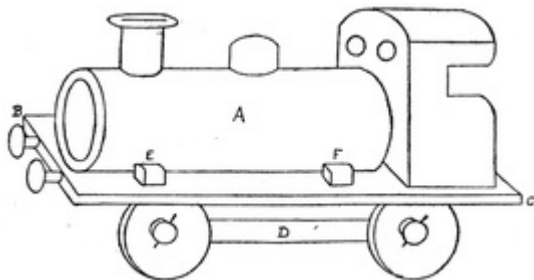
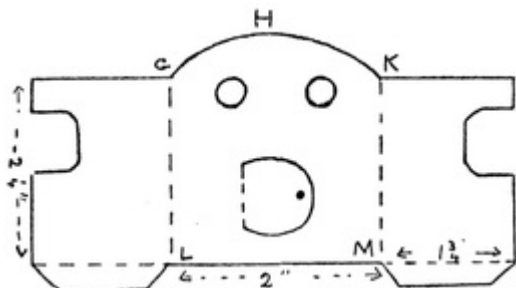

FIG. 230
FIG. 231
A Train. (1) *The Engine* (Fig. 230). The body of the engine, A, is a long mantle-box or a piece of old curtain pole, about $4\frac{1}{2}$ inches long. The wooden bottom, B C, is $6\frac{1}{2}$ inches by $2\frac{1}{4}$ inches. A is glued to B C and kept in position by wooden blocks, E and F. The funnel and the dome are made from corks or pieces of round wood; their ends must be slightly concave, so that they may fit securely to A. A ring of cardboard is gummed to the top of the funnel, which may have a hole in it to take a piece of cotton-wool for
The cab is made of cardboard, as shown in Fig. 231, and is coloured to match the engine. G K L M is gummed to the back of A (Fig. 230), and its sides are fastened to the footplate by the flanges.
B C, as described in Chapter XIII. Strips of cardboard, coloured black (D in Fig. 230), are glued to the wooden blocks behind the wheels.